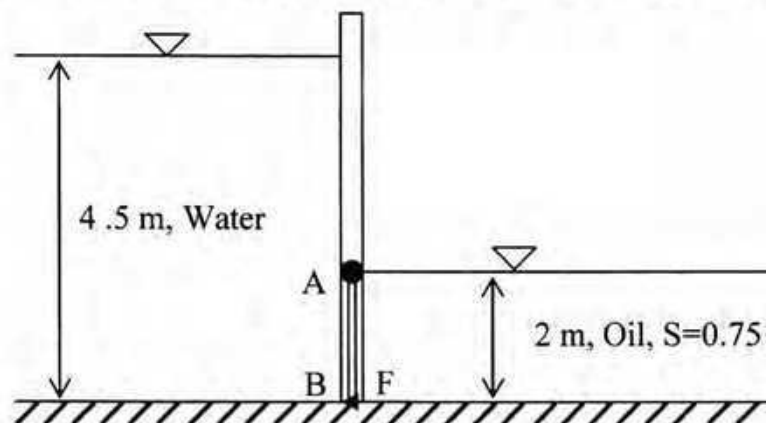

Figure 4
- c. The following Figure 4 shows a gate AB hinged at the end A. If the gate is 1.5 m wide, calculate the horizontal force (F) required at B to keep the gate in equilibrium. 13